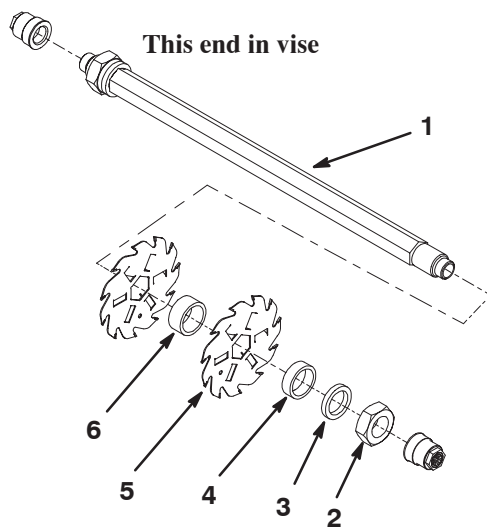

Figure 11
1. First, assemble a reel blade (Fig. 11).